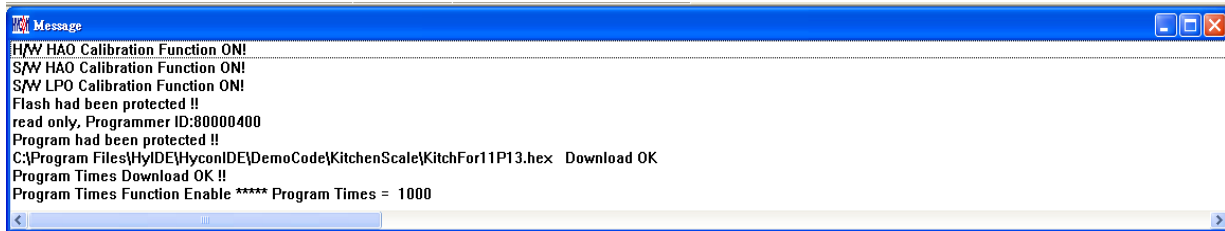

Figure 74
2. If there is enabled program times in the assembly option, information column will display the programming times as shown in Figure 74.